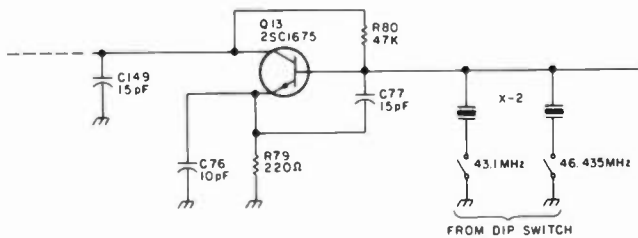

Fig. 3. Wiring configuration showing the switching of the two crystals.
To switch the two crystals in and out of the circuit, remove X-2 and place it where the private line (PL) circuitry normally would go. Using RG-178 B/U (or RG-174, which is bulkier), connect one end to the receiver while the other end goes to the two crystals (43.1 or 46.433 MHz). For switching, a 4-position SPST DIP switch can be used. Since the crystal is grounded on the other end, it is best to disable the crystal by ungrounding it. Fig. 3 shows the wiring configuration. With the new